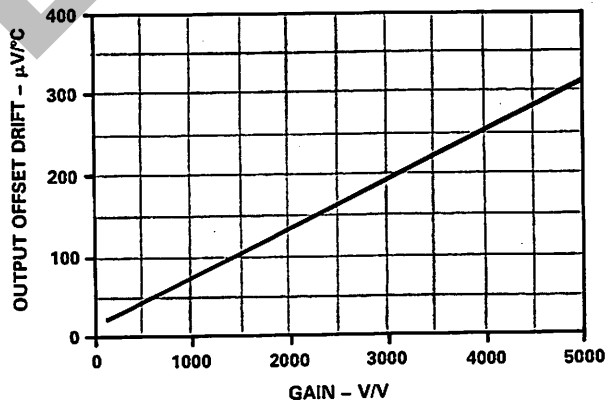

Figure 7. Total Output Offset Drift vs. Gain
**Input Offset Voltage Drift:** The chopper front end of the 1B32 gives it excellent input offset stability. As shown in Figure 7, it typically exhibits drift of  $\pm 0.07\mu V/^\circ C$  RTI at a gain of 1000V/V ( $\pm 75\mu V/^\circ C$  RTO). The measurement is two-point, and is taken at  $-25^\circ C$  and  $+85^\circ C$ , which covers the specified temperature range of the 1B32.